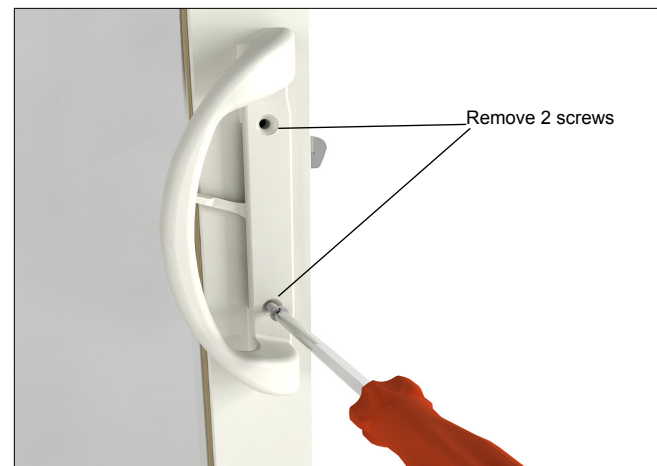

Figure 3 Cambridge handle shown
1. Using a #2 Phillips screwdriver, remove the two screws and existing handle set (if installed). See figure 3.